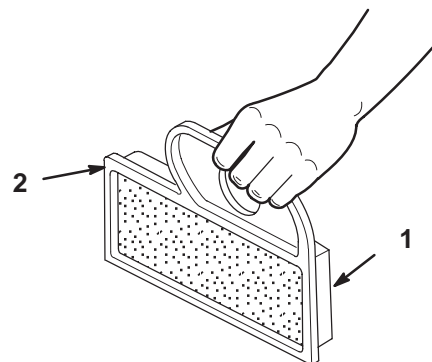

Figure 35
1. Lightly tap the element on a flat surface to remove dust and dirt (Fig. 35).